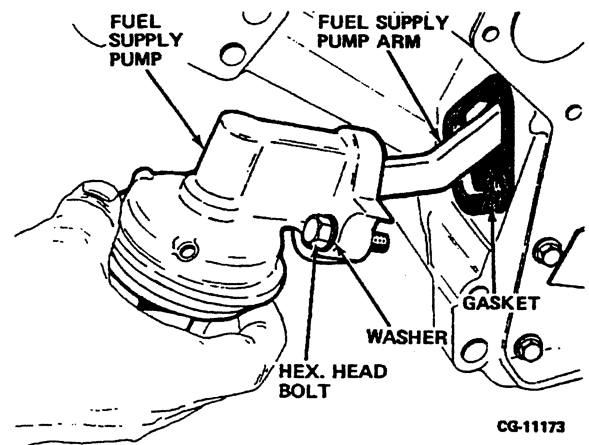

Figure 9.22. Installing Fuel Supply Pump
- b. Using a new gasket, attempt to install the pump. If pump flange can be aligned, **WITHOUT RESISTANCE**, complete installation. If **RESISTANCE IS MET**, rotate engine through 360° to the next stroke and proceed with pump installation. (Refer to Figure 9.22.)